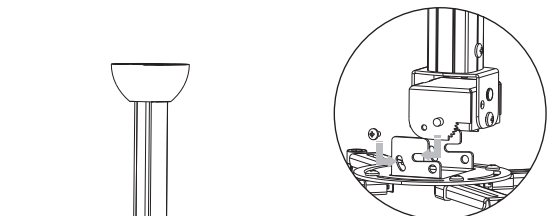
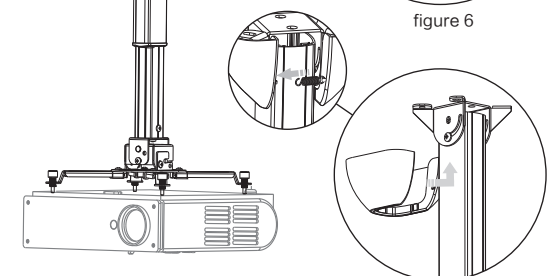

figure 6
figure 7
- 3 Hang the installation bracket (projector has been installed) to the adjuster as figure 6. And then put in the screws (accessory ③), but do not fasten. Pull the top cup to the main bar, and then invaginate the spring, figure 7